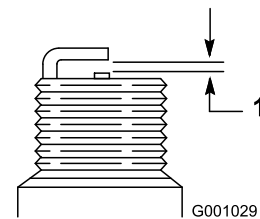

Figure 50
- Set the gap between the electrodes on a new spark plug at 0.76 mm (0.030 inch) (Figure 50).